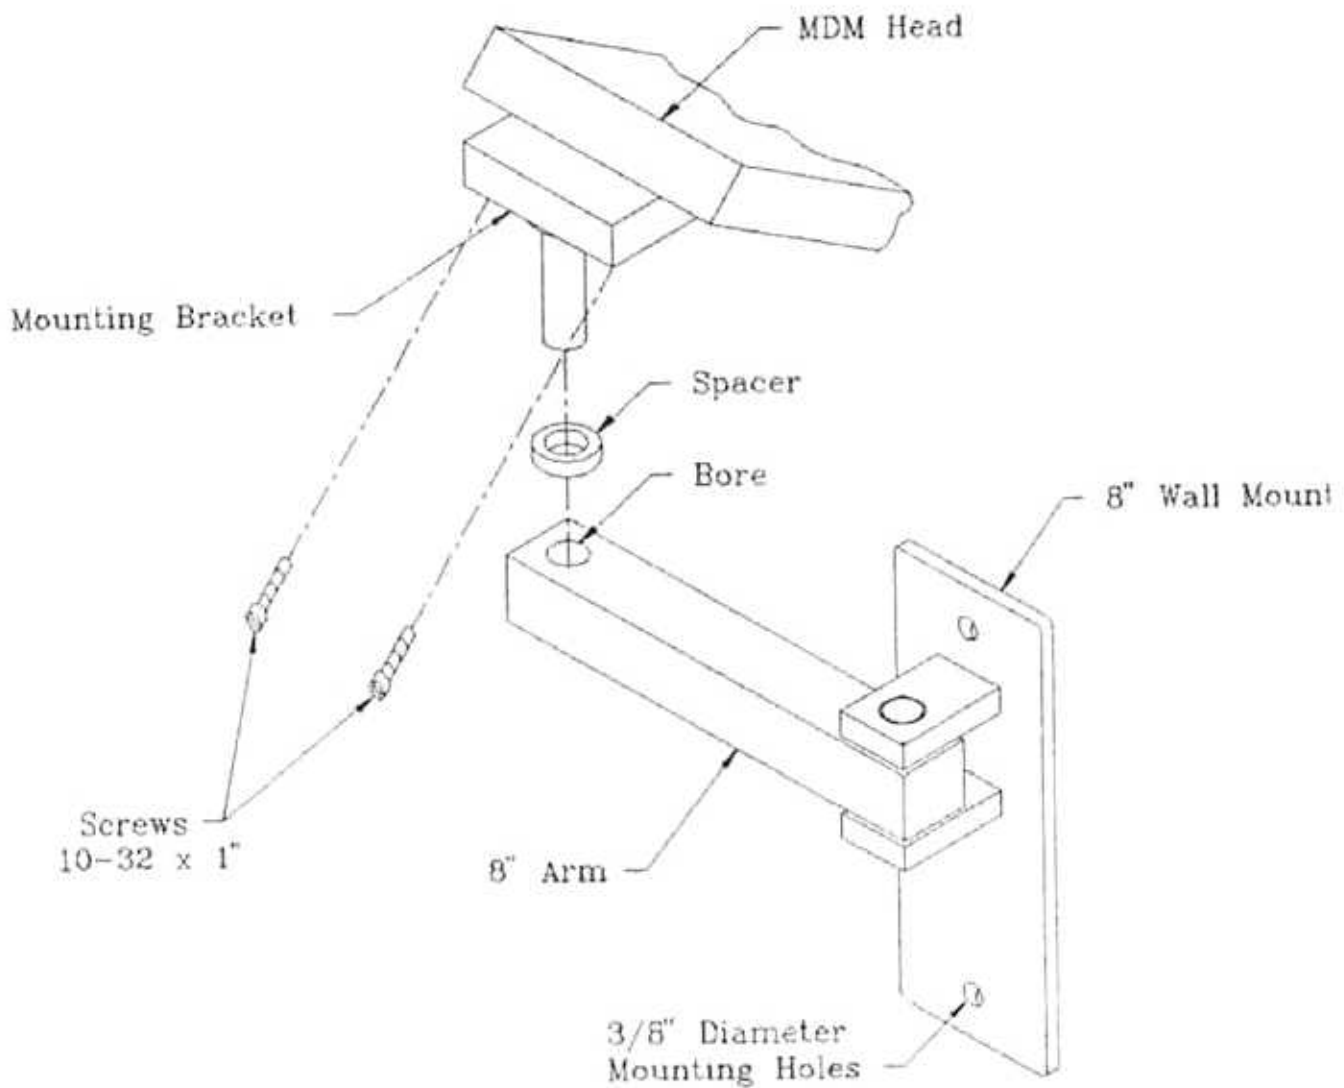

Figure 3
**For Top Mounting Wall Mounted Units (see fig 3)**
2. Refer to Figure 3. Slide stud on mounting bracket (attached to analgesia head) in bore located in the end of the 8" arm.